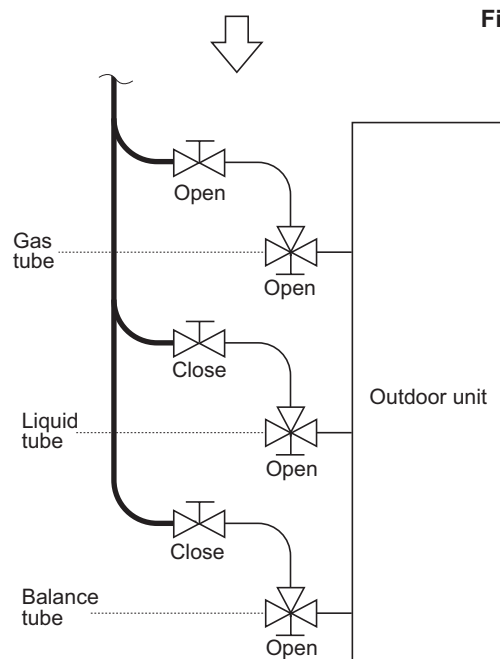

Fig. 2-293
- If the additional refrigerant charge amount cannot be charged at once, charge the remaining refrigerant in liquid form by using the gas tube service valve with the system in cooling operation mode at the time of test run. (Fig. 2-293)